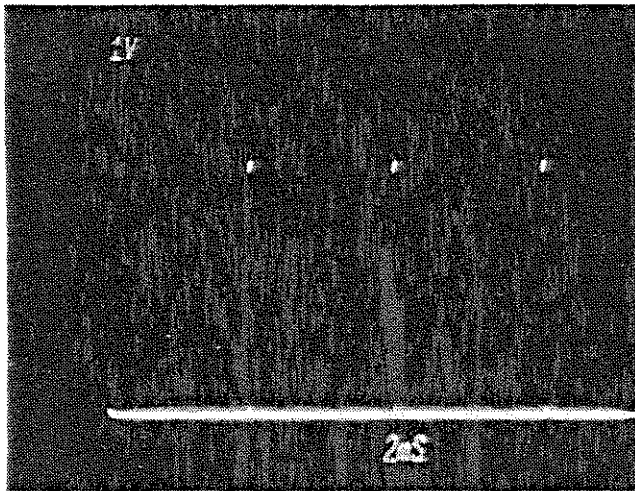

Fig. 4-15 Waveform for negative polarity Z output
- e. **CHECK** that the Oscilloscope display is 5 Vp-p (+5% -15%) (4.25 -5.25 divisions) and the pulse polarity is similar to Figure 4-15.